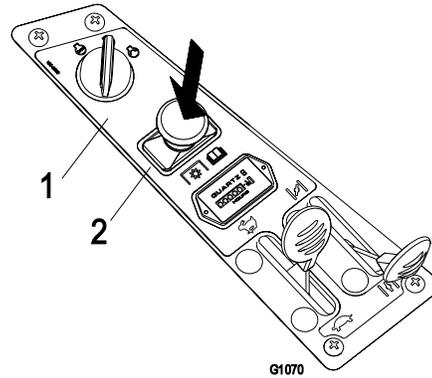

Figure 12
Push the blade control switch to Off to disengage the blades (Figure 12).
- Disengage the blades by moving the blade control switch to Off (Figure 12).